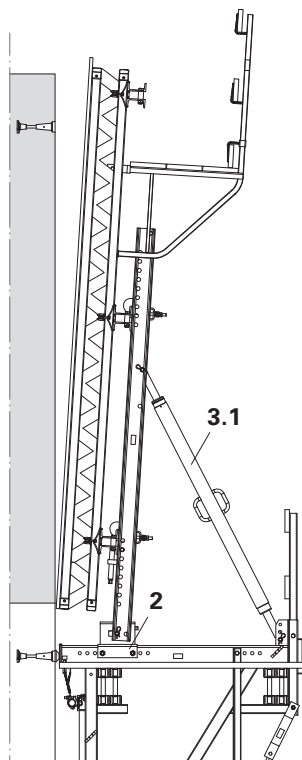

Fig. B1.15
2. Loosen Height Adjusting Unit CB 160 (2).
3. Tilt formwork using Adjustable Brace CB 164-225 (3.1). (Fig. B1.15)